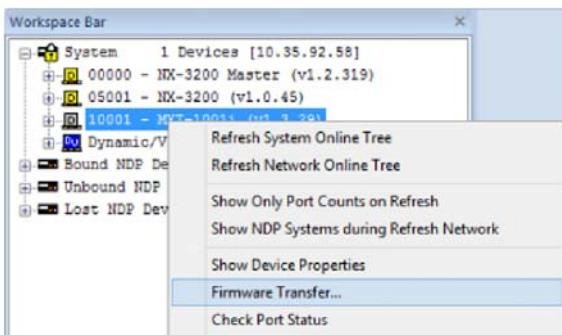

FIG. 158 NetLinx Studio Online context menu (Firmware Transfer selected) This invokes the Send To NetLinx Device dialog.
3. Right-Click on the G5 panel, and select **Firmware Transfer** from the context menu (FIG. 158):